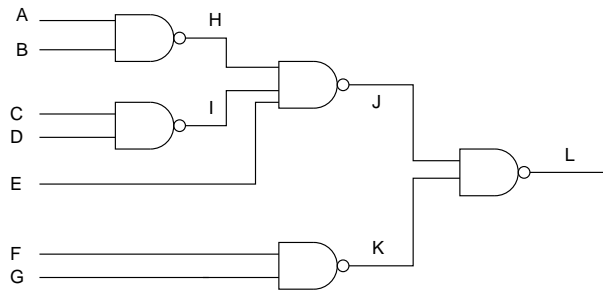

Figure 1: A Fanout Free Circuit
- (e) (5 points) Consider a fanout free combinational circuit given below in Figure 1 and answer the questions related to this.